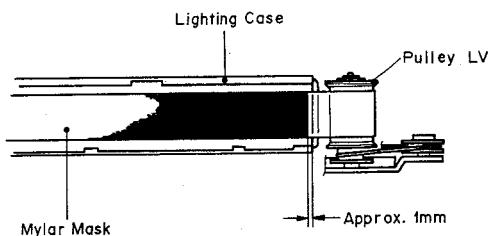
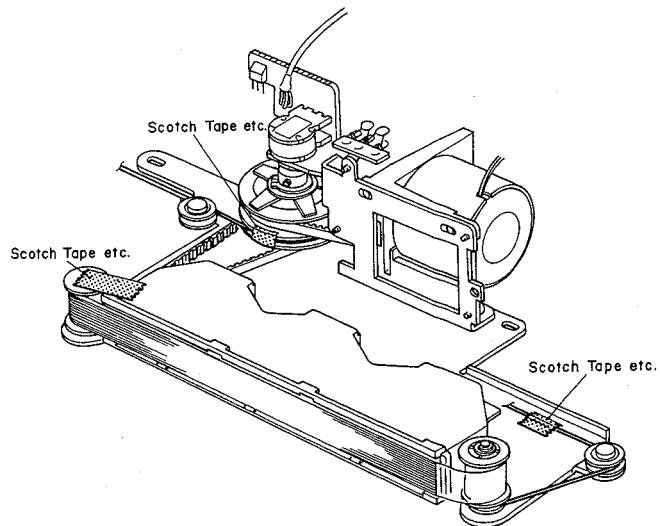

Fig. 5.2.7
Fig. 5.2.8
(7) Refer to Figs. 5.2.7 and 5.2.8. Manually turn Pulley LV to set the end of the masking of Mylar Mask within approx. 1 mm from the end of the Scale Filter of the Lighting Case. Then fix Pulley RV and Thread A temporarily with scotch tape, etc. as shown in Fig. 5.2.8. Thread A should be wound around the Pulley LV for 1/2 to 1 turn.